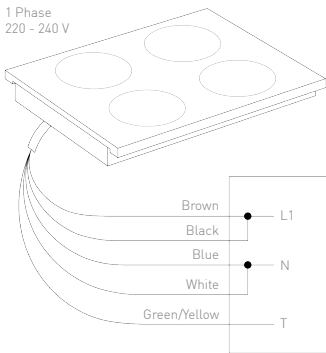
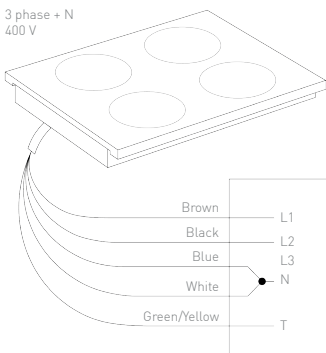

Figure 1
Figure 2
The system can be connected to a Single phase 220-240 V electric system, according to Figure 1, or to a 3 phase+N 400 V electric system, according to Figure 2.
2. In the circuit breaker, fuse box, or junction box, connect appliance and power supply cable wires, according to Figure 1 or Figure 2.